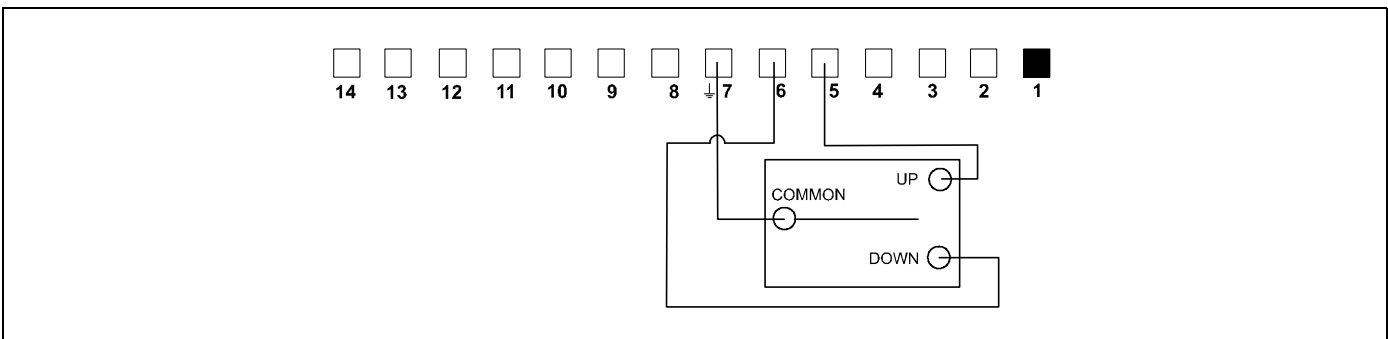

Figure 32
1. Connect the common wire from your switch to terminal 7. (See Figure 32)